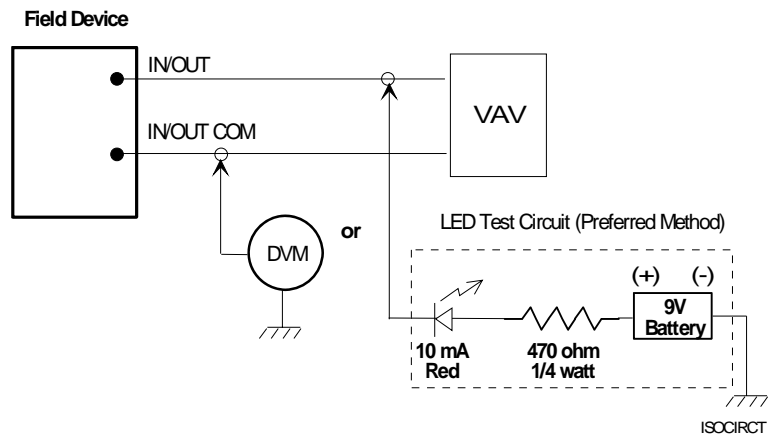

Figure 38: Testing for an Isolated Circuit
- Before you terminate the field wires to the VAV, measure the resistance of each wire to earth ground using an LED test circuit (preferred) or a DVM. For the LED test circuit, assemble the test circuit illustrated in Figure 38. Then, connect the circuit from each input to earth ground and then to each output to ground. For the DVM test, connect the DVM from each input to earth ground and then to each output to ground (Figure 38).